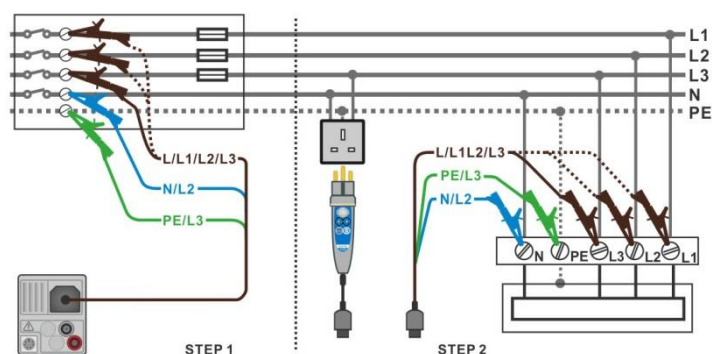

Figure 7.60: Voltage drop measurement – connection of Plug commander and 3-wire test lead
- Connect test leads to the origin of electrical installation, see **Figure 7.60**.
- Connect test leads or Plug commander to the tested points, see **Figure 7.60**.